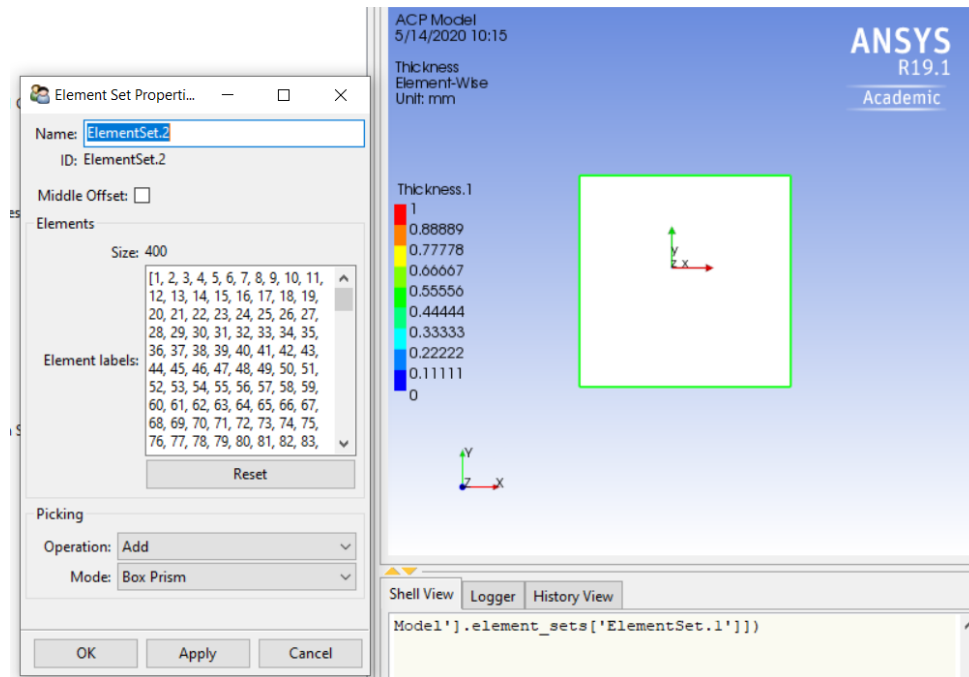

Figure 3. Creating a new Element Set.
21. On the display window, start from a point outside of the model, then click and drag to select all elements. Now you should have something similar to Figure 3.